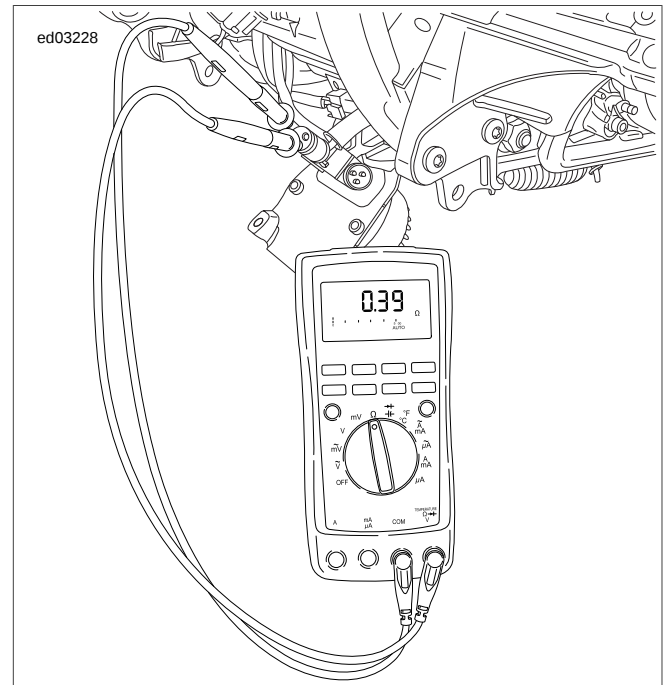

Figure 3-14. Check for Stator Resistance (Typical)
4. See Figure 3-14. Remove ground lead. Measure resistance across stator [47B] terminals 1-2, 2-3 and 3-1.